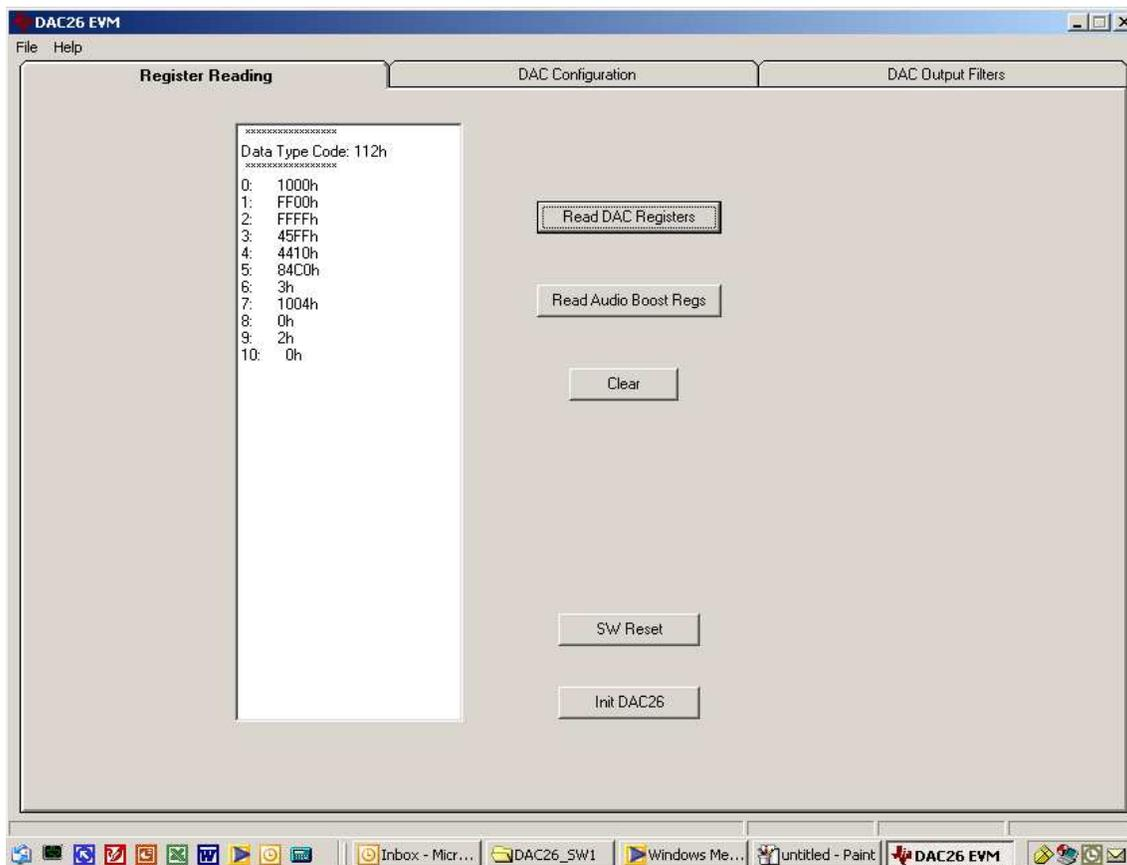

Figure 2. DAC26 EVM GUI With Page2 Registers Read
1. Start the DAC26EVM software on your PC, and the graphic user interface (GUI) shown in Figure 2 appears.
The preceding settings are reflected in the Page2 registers' contents shown in Figure 2. Inside the *Register Reading* box, the right column is the register content, and the left column identifies the register, where the 0 to 6 lines correspond to Page2/Reg00h to 06h and the 7 to 10 lines correspond to Page2/Reg1Bh to 1Eh. Note the settings in registers 00h, 03h, and 05h.